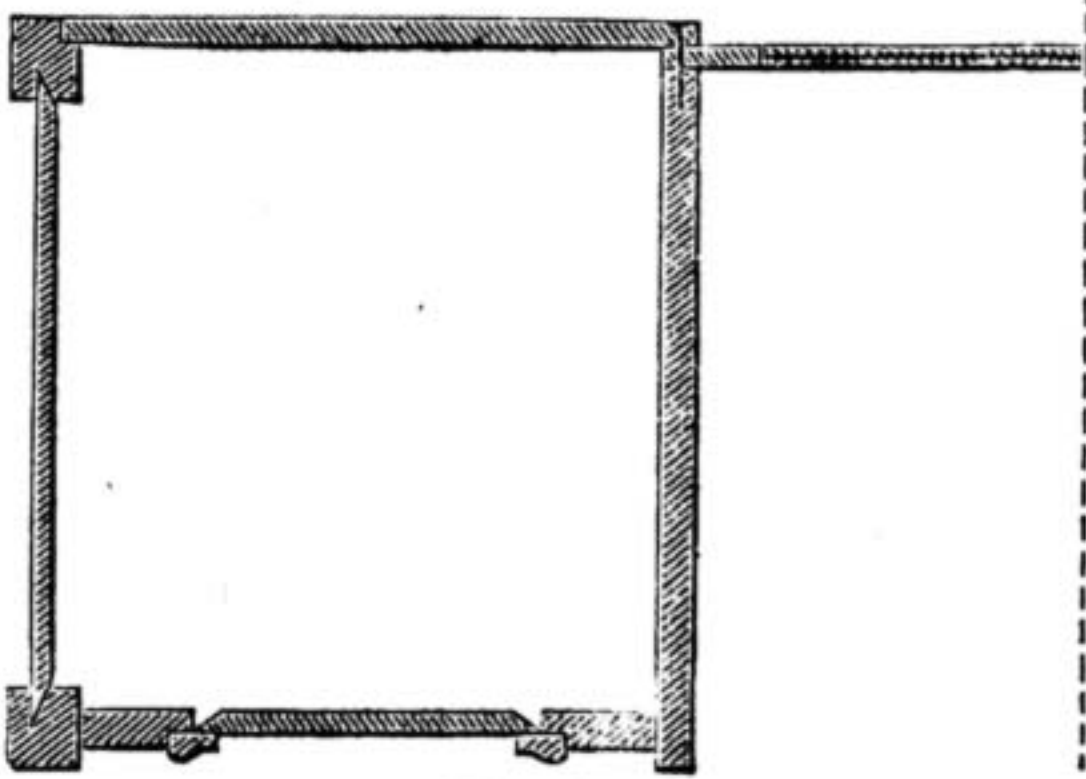
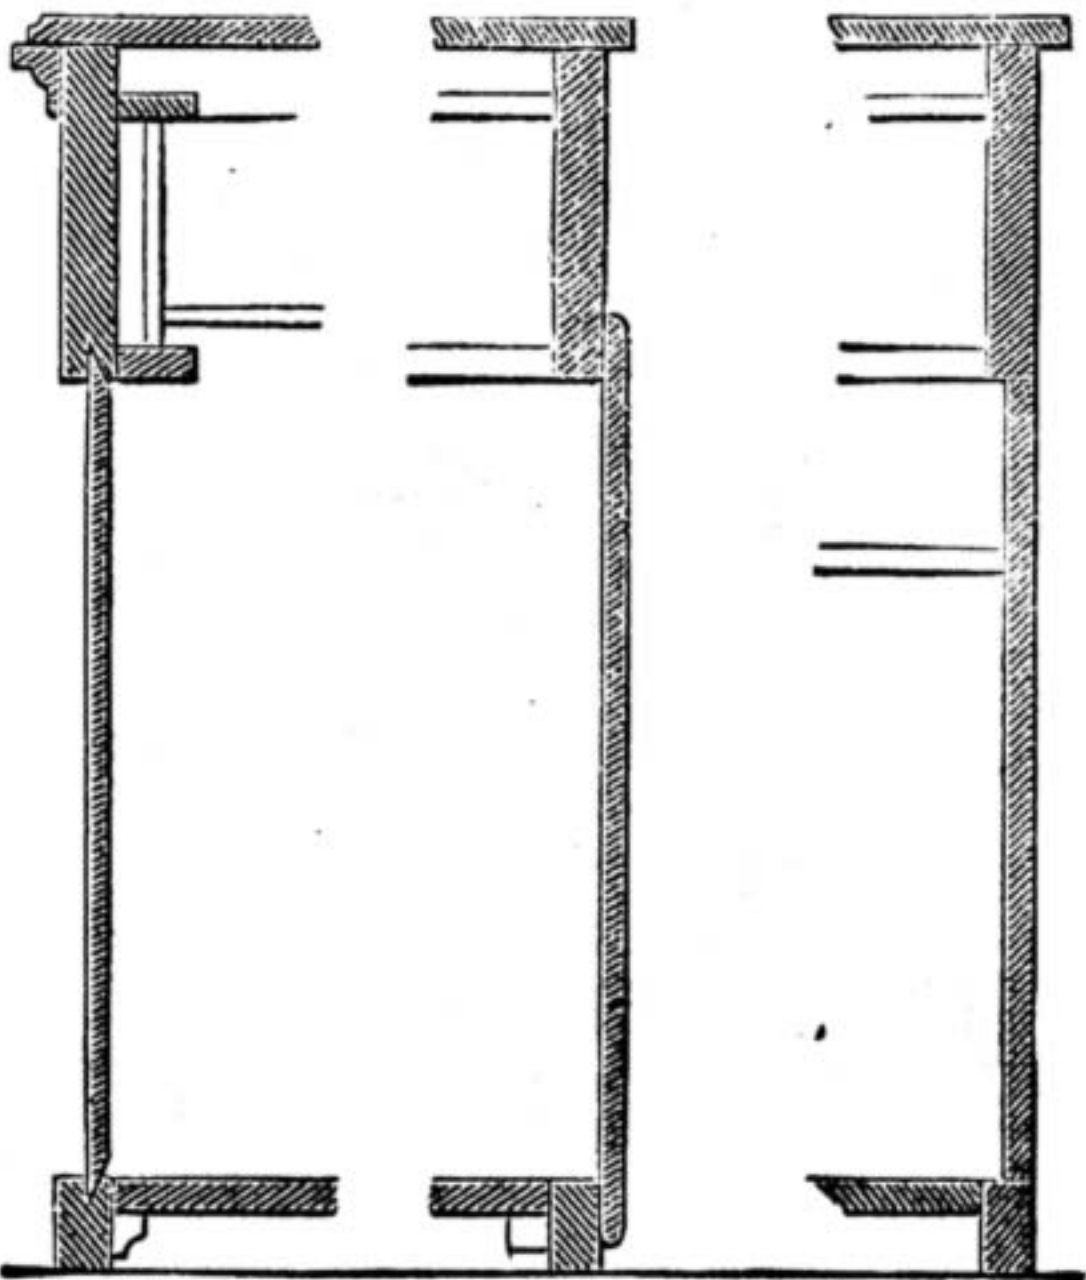

Fig. 2.
Fig. 3. Fig. 4. Fig. 5.
has two beads scratched on its face. It is mortised between the two fore edges. (7) The fore edge of centre drawer is mortised into the inner gables (8) which are $\frac{1}{2}$ in. thick. (9) The inner gables are fastened between bottom rail and fore edge by means of a pin or dowel. A fielded panel is one which has a broad shallow chamfer or bevel worked on its edges. Sometimes the fielded side is placed to the front and sometimes to the back. (10) The grain of bottom should run in the same direction as the top. It should be secured to end gable rails by means of dowels. There is not much fear of bottom splitting when it is blocked, if the wood is dry when you use it. (11) The shaded portion (in Fig. 12) under bottom rail refers, of course, to the little brackets underneath it. (12) The mouldings, shown in Fig. 2, in line with drawer fore edge consist of two beads scratched on top rail of gable, near its bottom edge. This top rail is broad enough to receive the drawer bearers on inside, so that it, therefore, appears in a line with the fore edge of drawer. A half-plan, showing horizontal sections of gables and carcass backs, etc., is given in Fig. 2, while an upright section of outer gable is given in Fig. 3, of carcass back behind cupboards in Fig. 4, and the same behind recess in Fig. 5. The inner